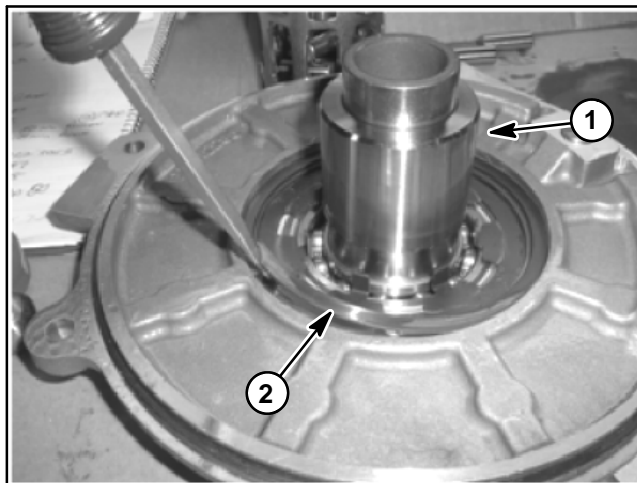

Figure 20
13. Using a screwdriver, remove the internal retaining ring from the cover plate (Fig. 20).